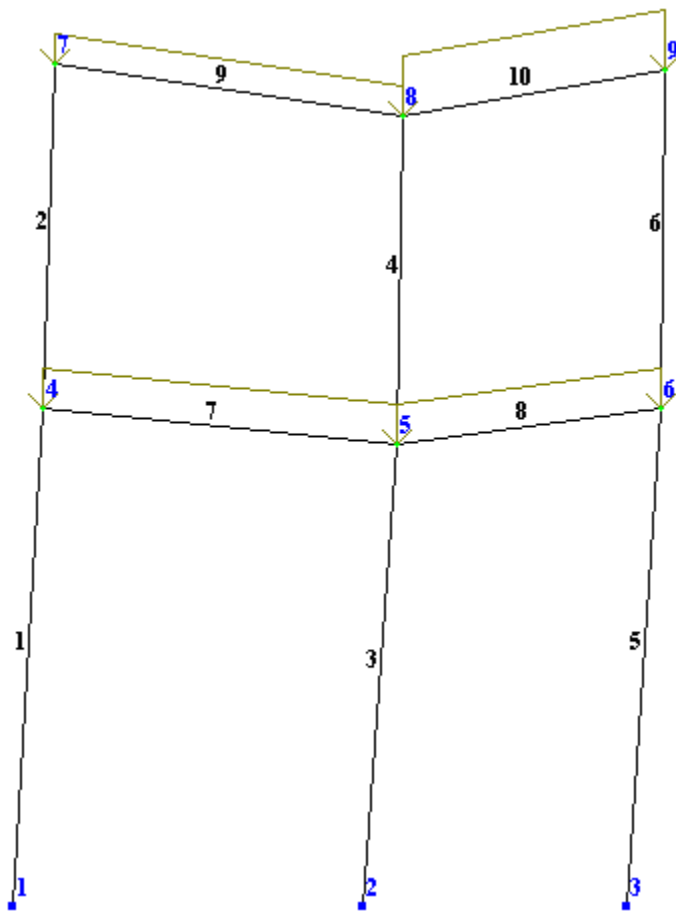

Figure 1.19 Design model with account of nodal displacements
- ⇒ In the mode of analysis results visualization, by default design model is presented with account of nodal displacements (see Fig.1.19). To display the model without nodal displacements, on the **Results** ribbon tab, on the **Deformations** panel, click **Initial model** button .